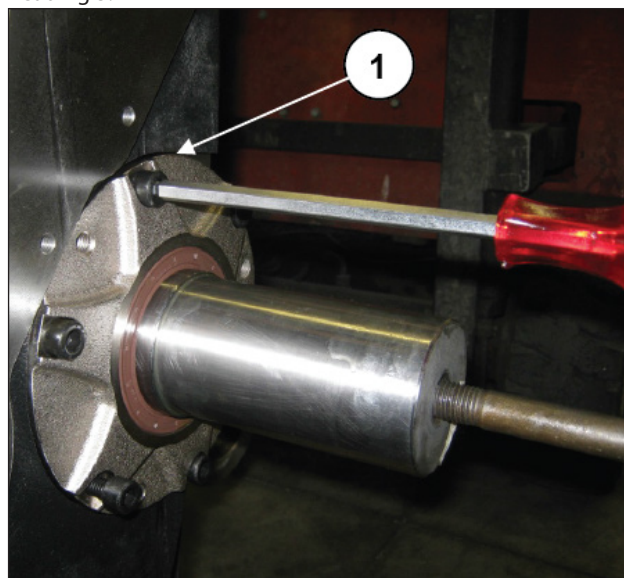
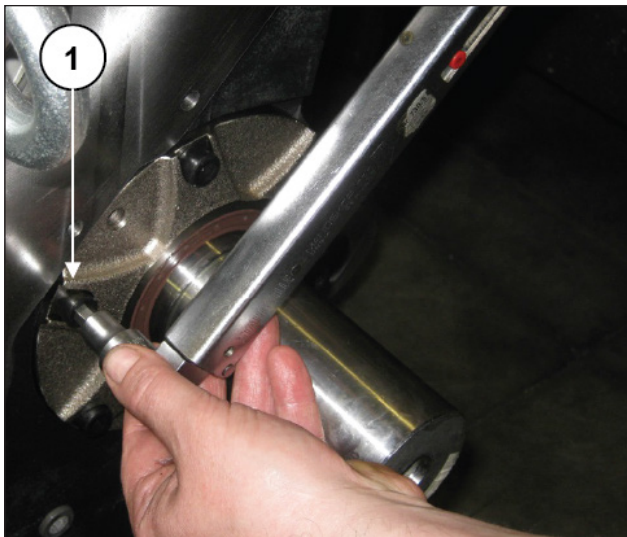

Fig. 119
Fig. 120
Fit the PTO bearing gasket and covers on both sides and tighten the M10 fixing screws (pos. ①, Fig. 119 - Fig. 120). Tighten the screws with a torque wrench as described in heading 3.